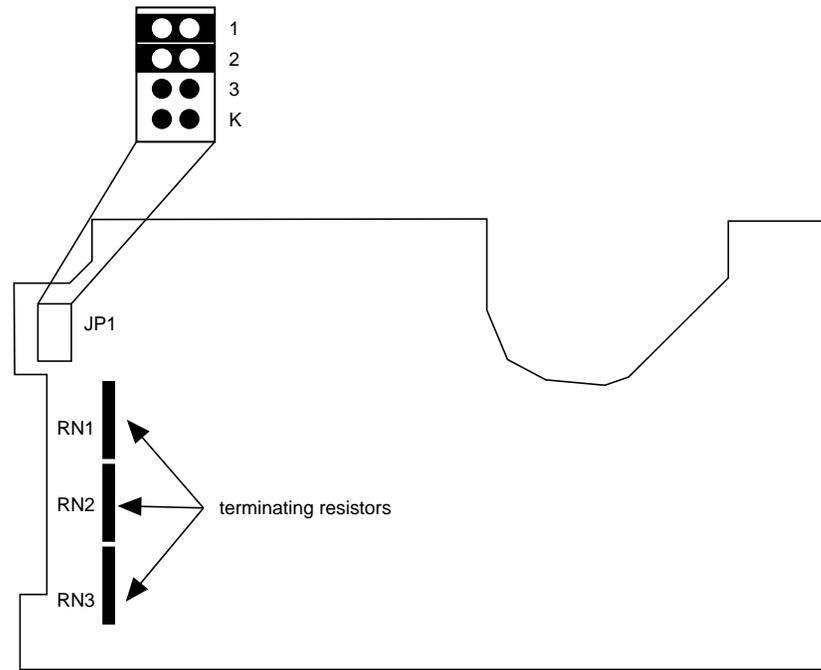

Figure 4-5. Jumper Settings for SCSI Cartridge Tape Drive
25. Attach the SCSI cable by aligning it with the 50 pin cable receptacle and pushing it on. All connectors are "keyed" to prevent incorrect installation (see Figure 4-5).
1. See Figure 4-5 and verify the jumper settings and that the terminating resistors are installed.